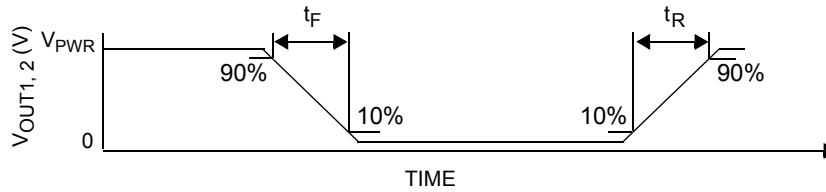

Figure 6. Output switching time
- Rise Time is from the 10% to the 90% level and Fall Time is from the 90% to the 10% level of the output signal with $V_{PWR} = 24\text{ V}$, $R_{LOAD} = 3.0\text{ ohm}$. See Figure 6, page 10.